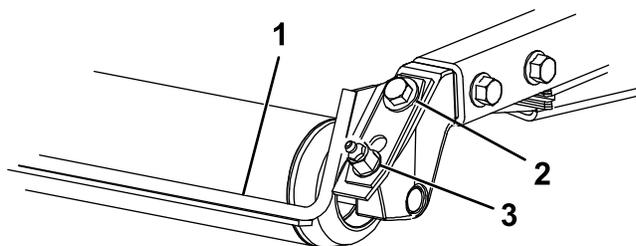

Figure 14
1. Loosen the grease fitting and the mounting screw (Figure 14).